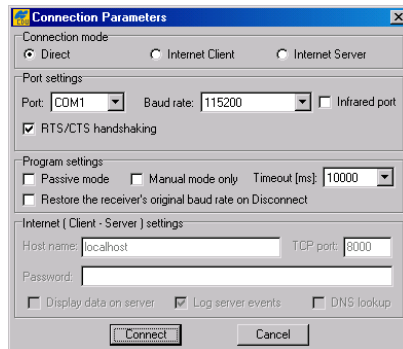

Figure 1-1. Connection Parameters
Once PC-CDU is launched, the **Connection Parameters** dialog box displays (Figure 1-1).
4. Click **Connect**. See Figure 1-1 on page 1-5 for an example of the *Connection Parameters* dialog box for this connection type.